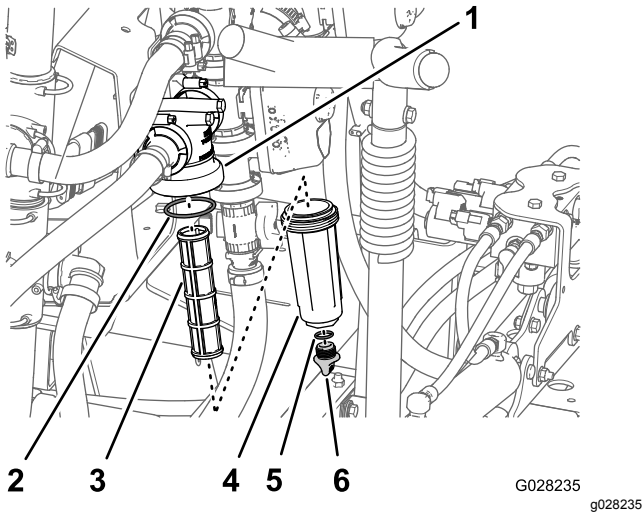

Figure 91
2. Align a drain pan under the pressure filter (Figure 91).
3. Rotate the drain plug counterclockwise and remove it from the bowl of the pressure filter (Figure 91).
4. Rotate the bowl counterclockwise and remove it from its filter head (Figure 91).
5. Remove the old pressure-filter element (Figure 91).
6. Check the O-ring for the drain plug (located inside the bowl) and the O-ring for the bowl (located inside the filter head) for damage and wear (Figure 91).
7. Install the new pressure-filter element into the filter head (Figure 91).
8. Install the bowl onto the filter head hand tight (Figure 91).
9. Install the plug into the bowl hand tight (Figure 91).